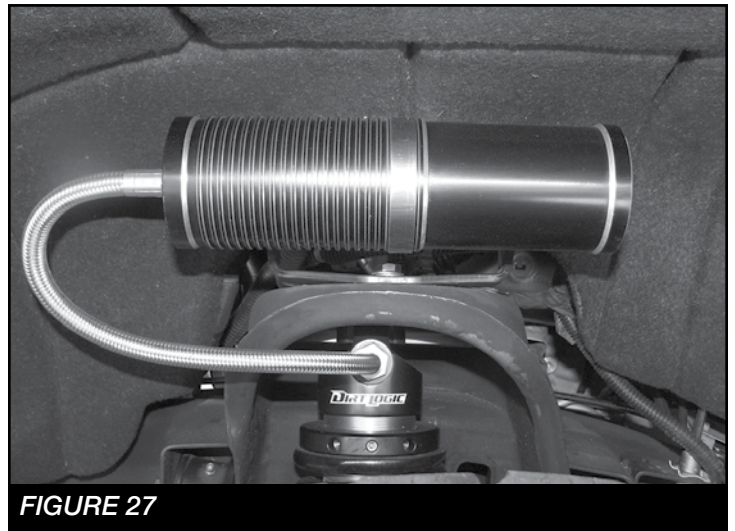

FIGURE 27
27. If installing Dirt Logic coilover, FTS810152 or FT820282D & P, do so at this time using hardware provided with that shock. When installing the Fabtech coilover the coilover should be offset towards the front of the truck. **NOTE: See figure 27 for resi mount orientation.** Otherwise, continue with Step 29 with the factory shock.